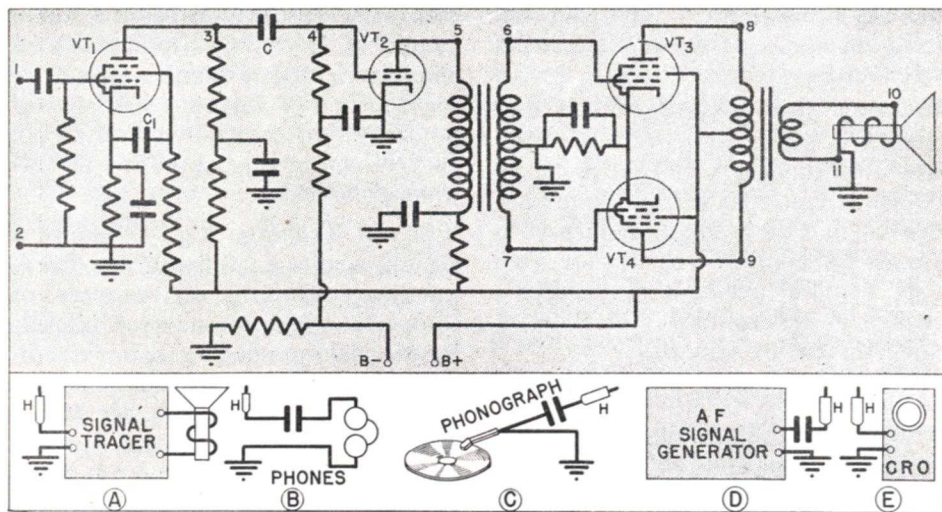

FIG. 17. Here are the devices that can be used to localize the distortion in an audio amplifier like the one shown above.
**Signal Tracing.** Fig. 17 shows a typical audio amplifier. Underneath the diagram are the various pieces of equipment which can be used to localize the stage producing distortion: *A*, a signal tracer with an audible output indicator; *B*, a pair of phones with a protective condenser in series; *C*, a phonograph pick-up; *D*, an a.f. signal generator; and *E*, a cathode ray oscilloscope.
nected to the amplifier under test. The hot lead of the signal generator is connected to the amplifier input (point 1 in Fig. 17). The hot vertical amplifier lead of the c.r.o. is connected to the defective stage; you can then find the actual defect with your voltmeter and ohmmeter.
in Fig. 17, touch the hot c.r.o. test lead to points 1, 3, 5, 6, 7, 8, 9 and 10. When the pattern first changes shape, you have just passed through the defective stage; you can then find the actual defect with your voltmeter and ohmmeter.
This amplifier is satisfactory for checking anywhere in the amplifier, except directly across the voice coil. Therefore, you will have to start testing at point 8 or point 9 of Fig. 17.